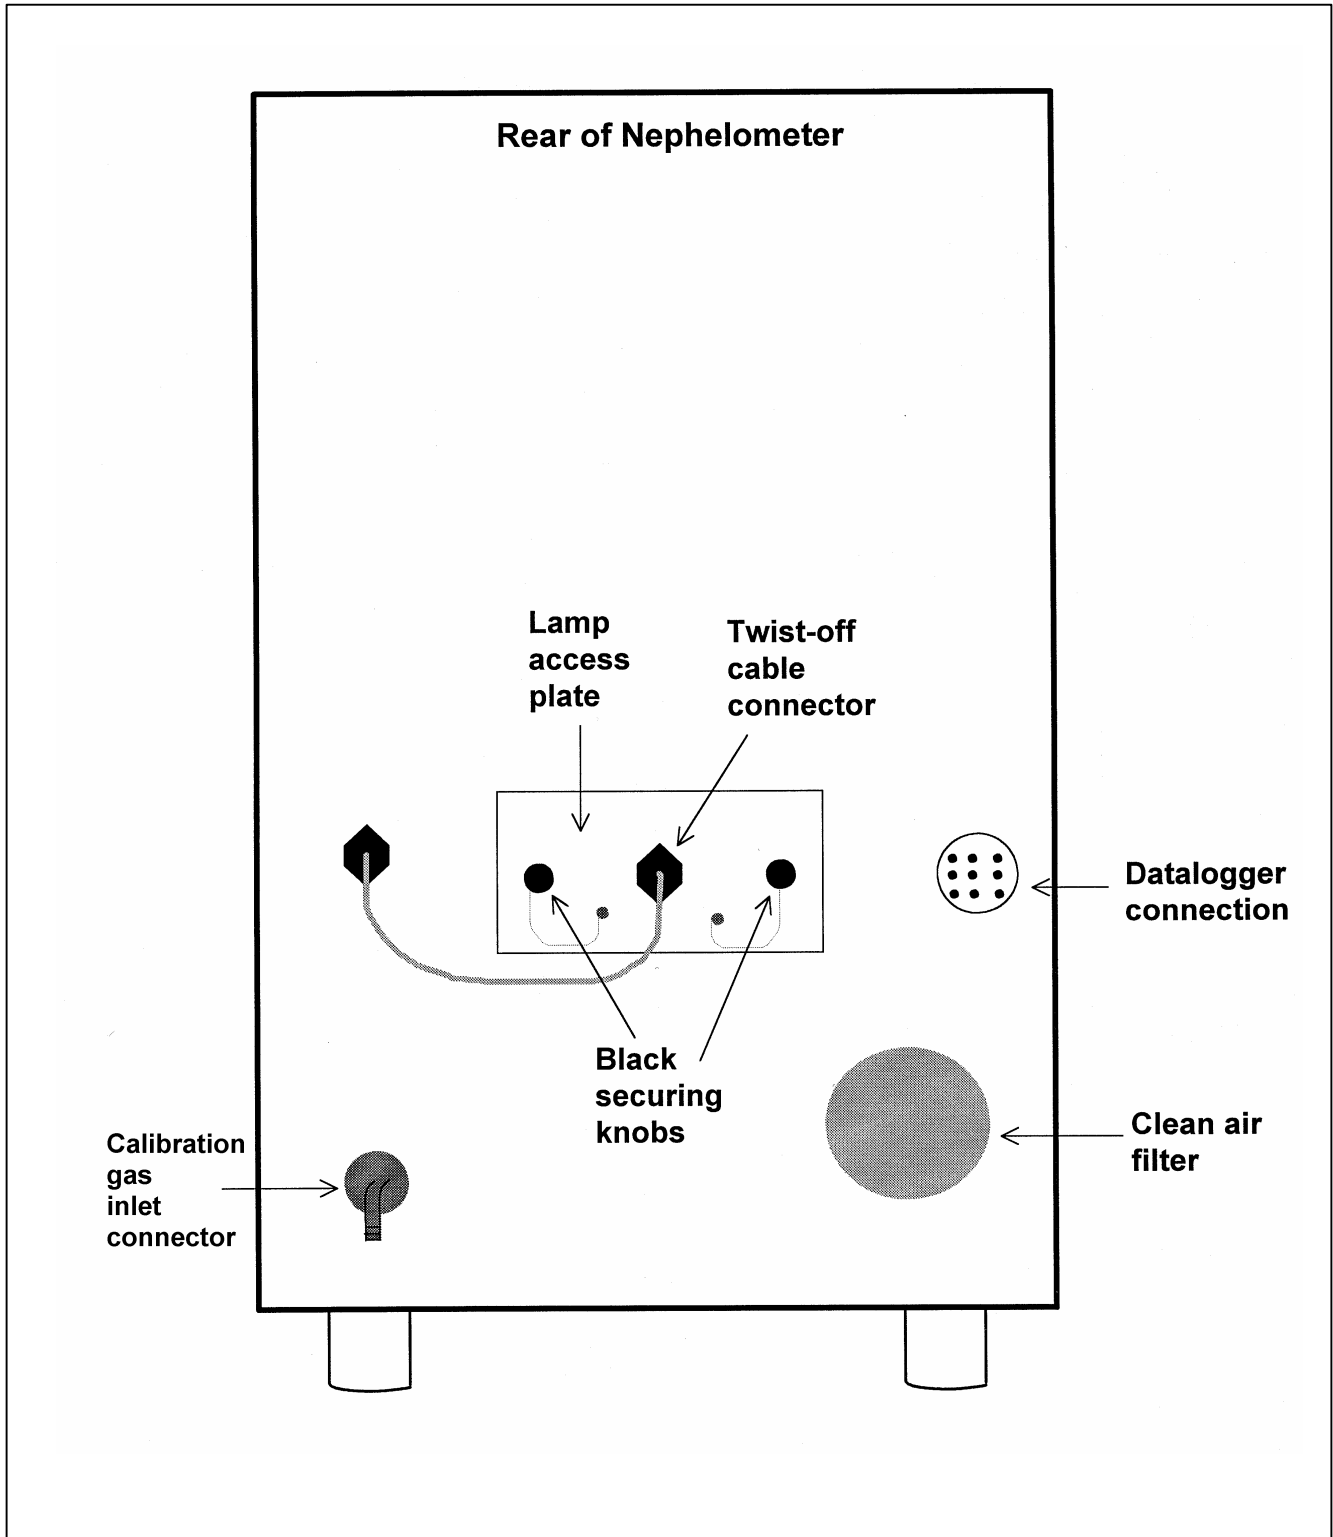

Figure 4-2. Nephelometer Lamp Replacement Diagram.
Replace the lamp as described below (refer to Figure 4-2):
- Connect the flowmeter input hose (bottom) to the calibration gas inlet connector (see Figure 4-2).